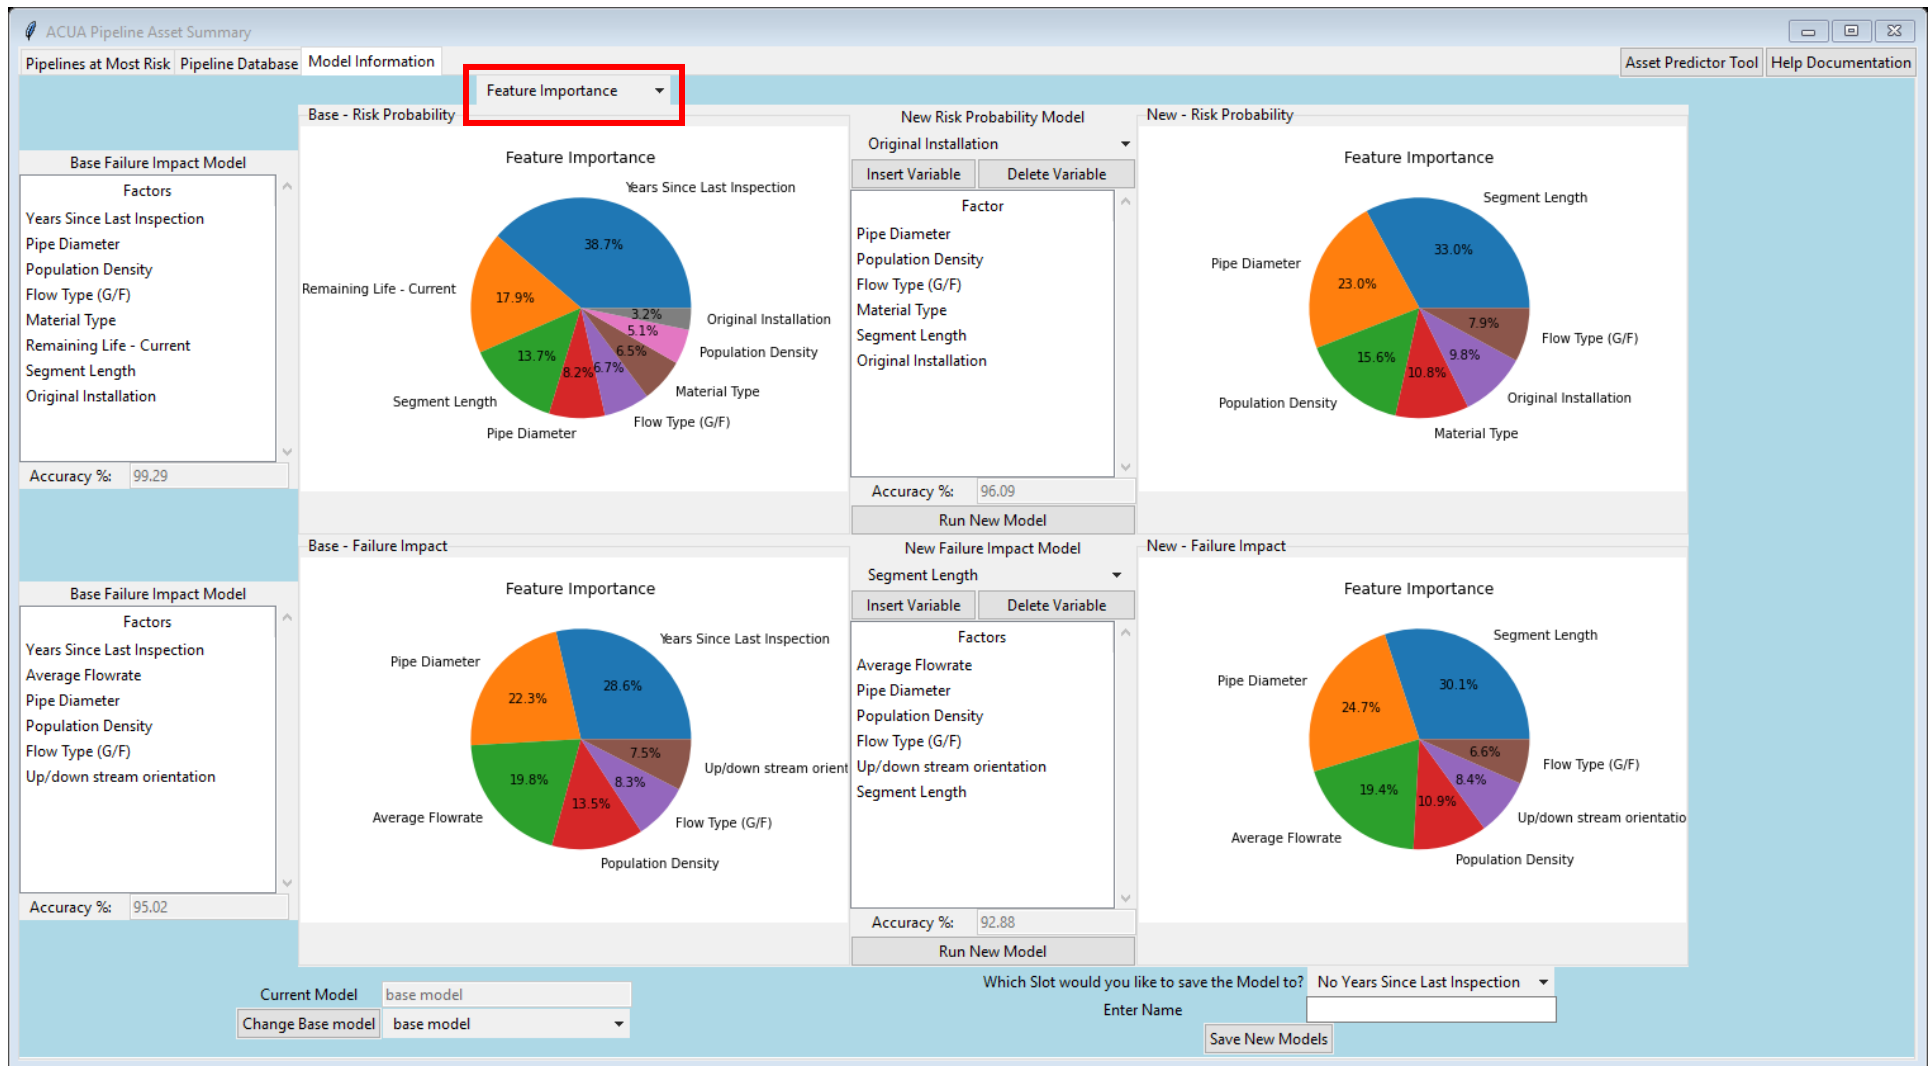

Figure 14: Showing the Feature importance function from the drop-down menu
2. Click the drop down outlined in red in Figure 14
2. The percentages shown by the pie chart in Figure 14 represent how important the factor is to the model, but does not represent an equation to determine the score